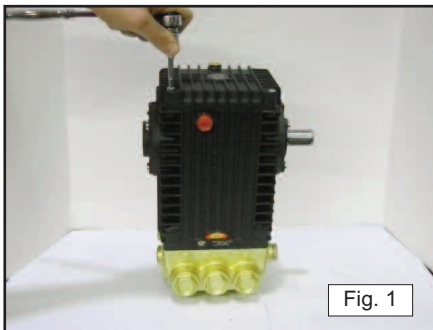

Fig. 1
2) Remove qty. 4 rear cover screws with 5 mm hex wrench. Fig. 1